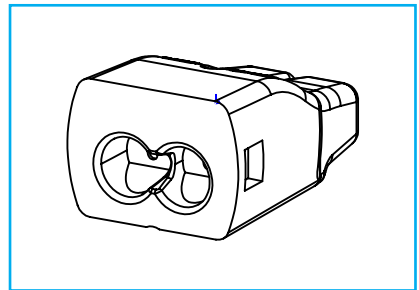

Fig.9
**Quick connectors (Fig.9)** provided for line / mains voltage connection: black (hot), white (common) and green (ground).
**Note:** For Low Voltage Systems (LVS / UL2108), splice compartment / power supply assembly provides two (2) wires for connection to DC low voltage: Red (+) and Black (-)
Feed structured building wires through appropriate fitting contained within knockout, secure to corresponding connector (Fig.9) and tighten customer-supplied strain relief.